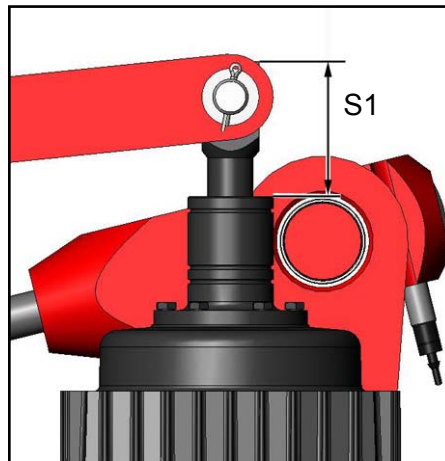

Fig. 3:
- Turn Nut (2.14) **clockwise** until the piston rod of the thruster (Fig. 3) has reached the necessary value for S1 (table 1).
- Turn Nut (2.14) **counterclockwise** until the piston rod of the thruster (Fig. 3) has reached the necessary value for S1 (table 1).